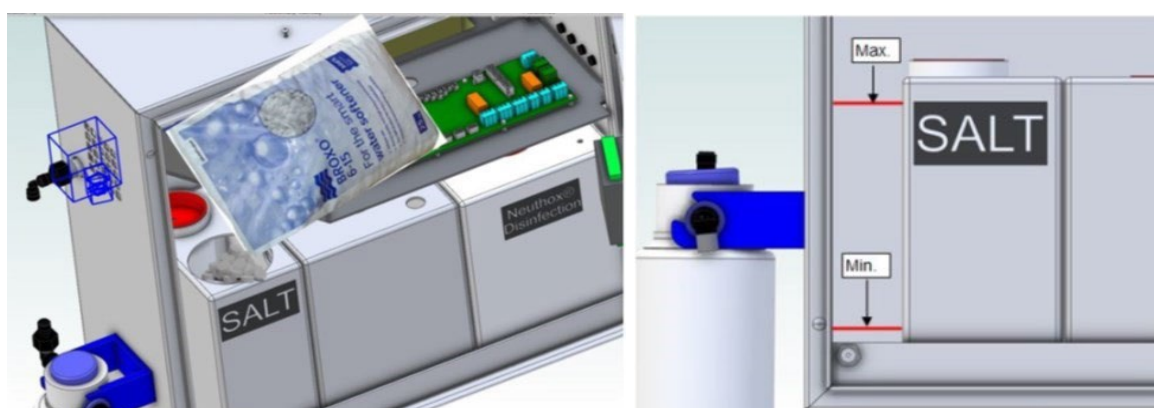

Figure 67 - Filling salt in brine tank
4. Tap the Startup button for Brine pump (Figure 67).